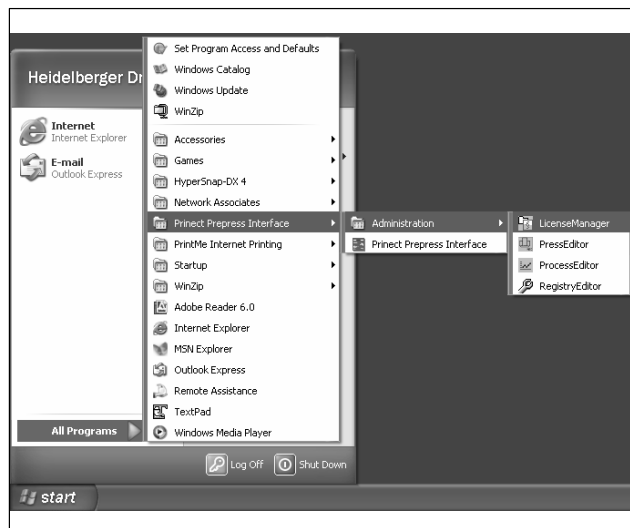

Fig. 1 Opening LicenseManager
1. Open the LicenceManager as shown in Fig. 1.